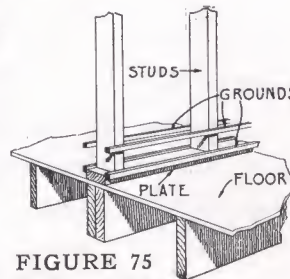

FIGURE 75
- (b) A double row of grounds is provided at the bottom of all walls, to which the room base is later nailed. The bottom ground should be placed about 1 inch above the floor and the top one 6 inches above the floor (see Figure 75). These run around the bottom of both sides of interior walls or partitions and on the inside of exterior walls.